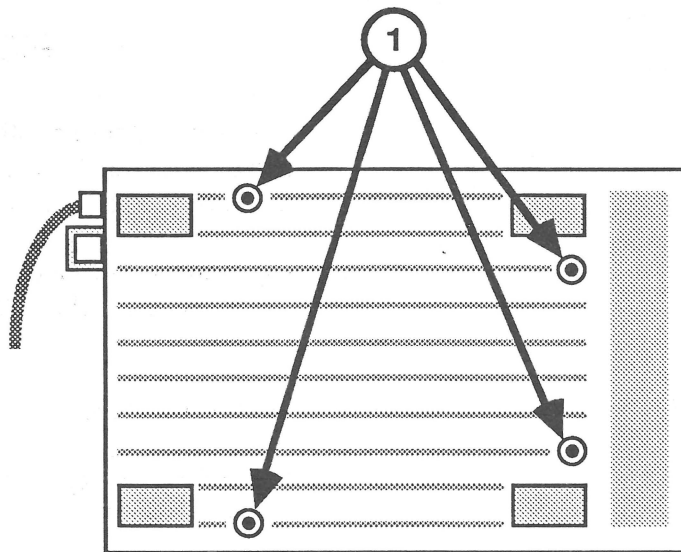

FIGURE 1
2. Remove the four screws from the case bottom (Figure 1, #1).